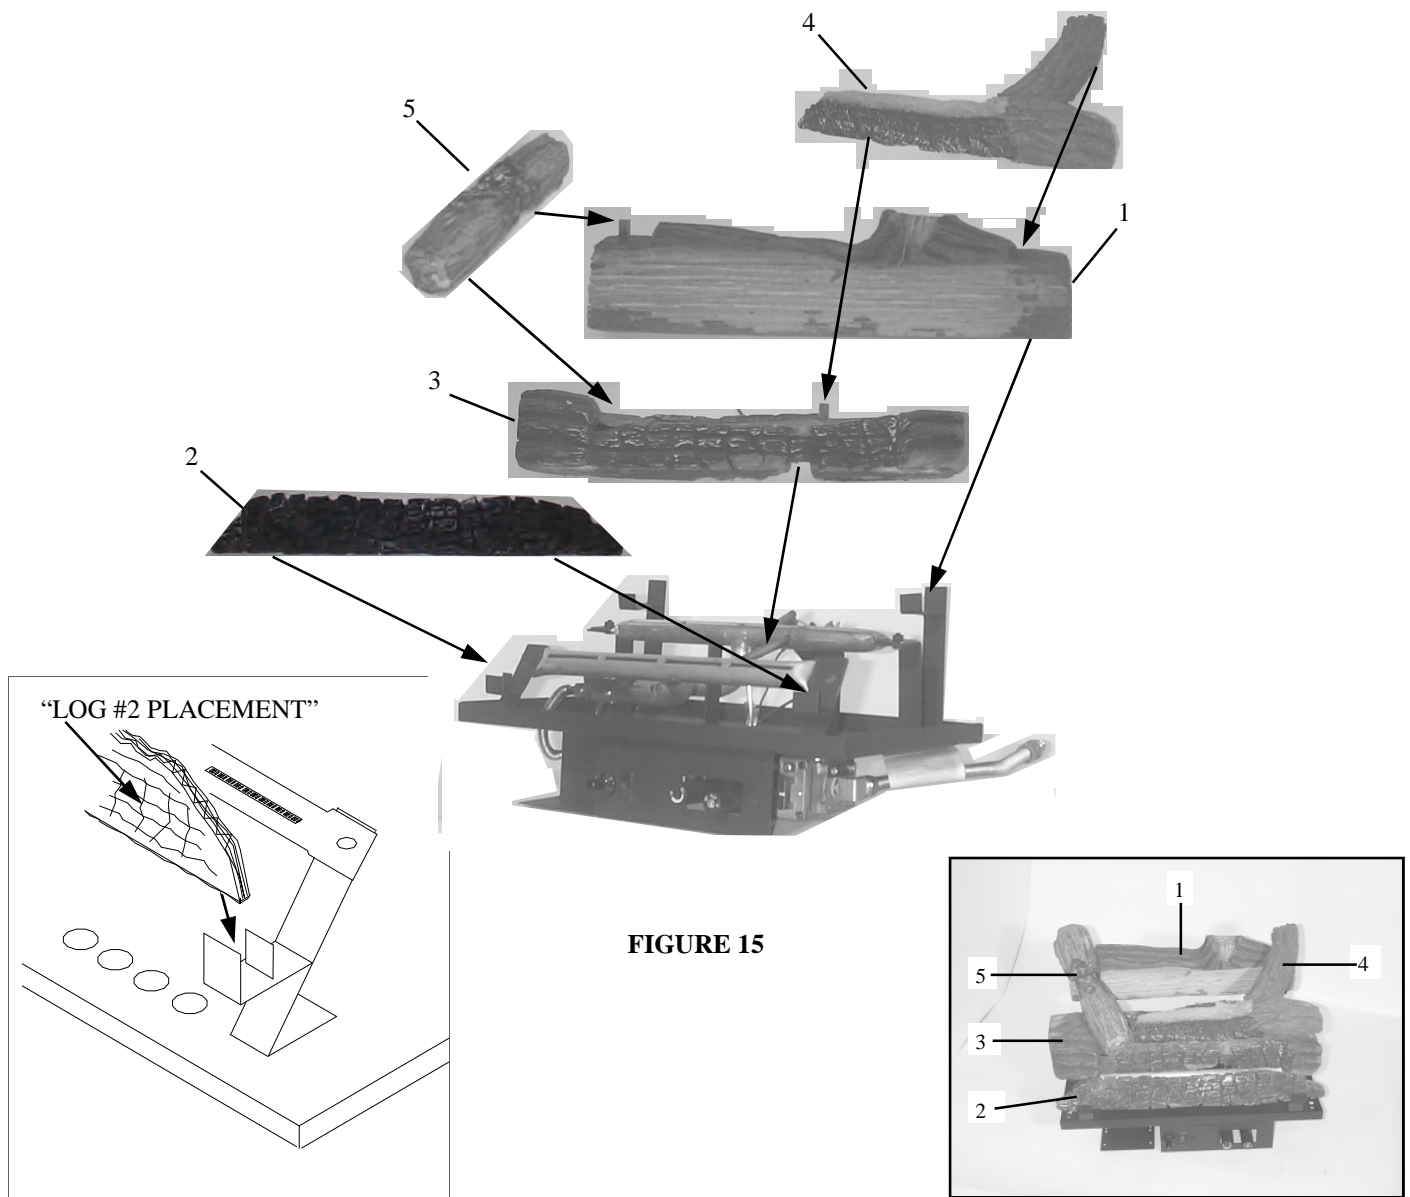

FIGURE 15
1. Carefully insert logs through opening in top of unit, placing logs on base as described on (Page 15, figure 15).
**WARNING: POSITIONING LOGS IS VERY CRITICAL (SEE FIGURE 15).
- If you remove logs for cleaning, refer to *Installing Gas Logs*. For **Townsend II** (Figure 13, page 13). For **Hepplewhite** (Figure 15, page 15), to properly replace logs.